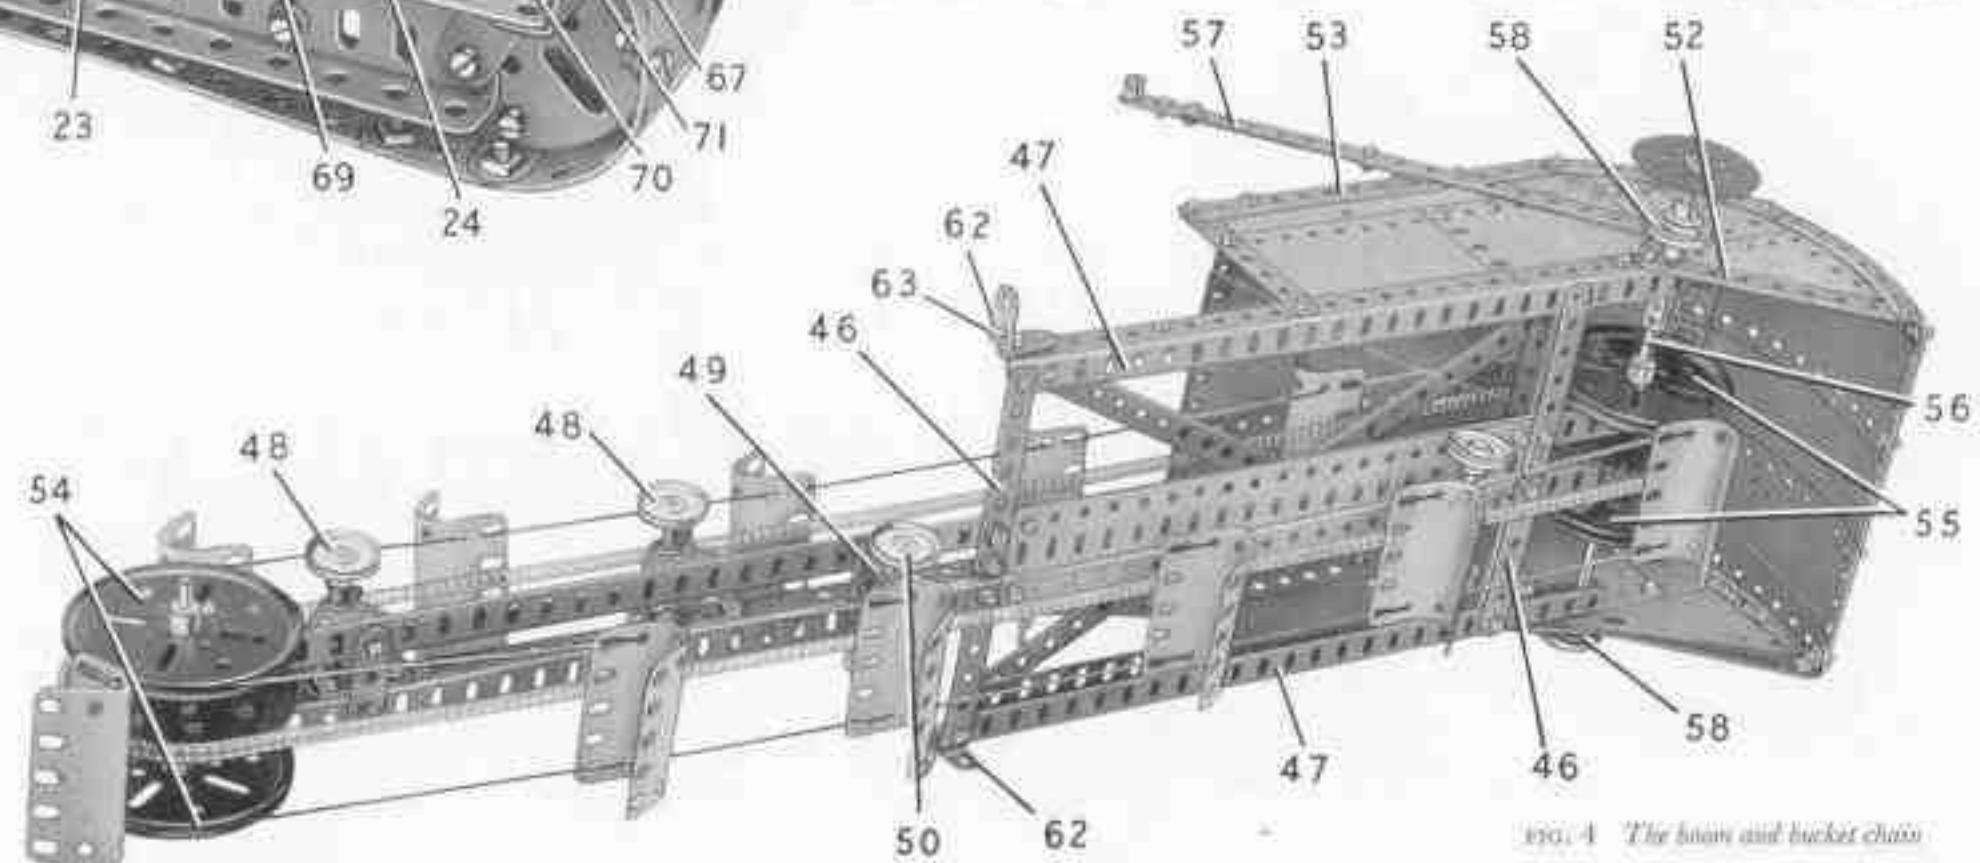

FIG. 4. *The binary and bucket chains*
The boom that supports the bucket chain consists of two $24\frac{1}{2}$ " Angle Girders connected by a $1\frac{1}{2}$ " Strip, two $9\frac{1}{2}$ " Flat Girders and two built-up strips (46) (Fig. 4), each made from two $3\frac{1}{2}$ " Strips. The upper one of the strips (46) is strengthened by a $3"$ Angle Girder on each side. A $12\frac{1}{2}$ " Angle Girder (47) on each side is bolted to the ends of the strips (46), and this structure is braced by two crossed $12\frac{1}{2}$ " Strips. The lower ends of the $12\frac{1}{2}$ " Strips are bolted to $4\frac{1}{2}$ " Angle Girders fixed to the Girders (47), and the upper ends are attached to Angle Brackets also bolted to the Girders (47).